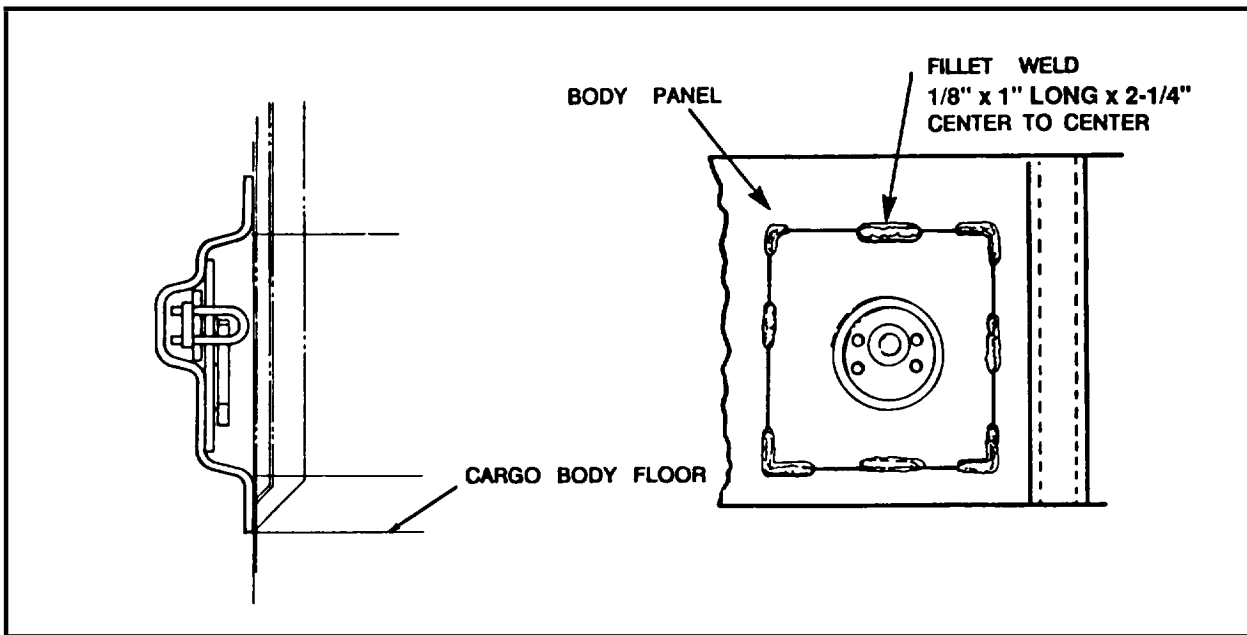
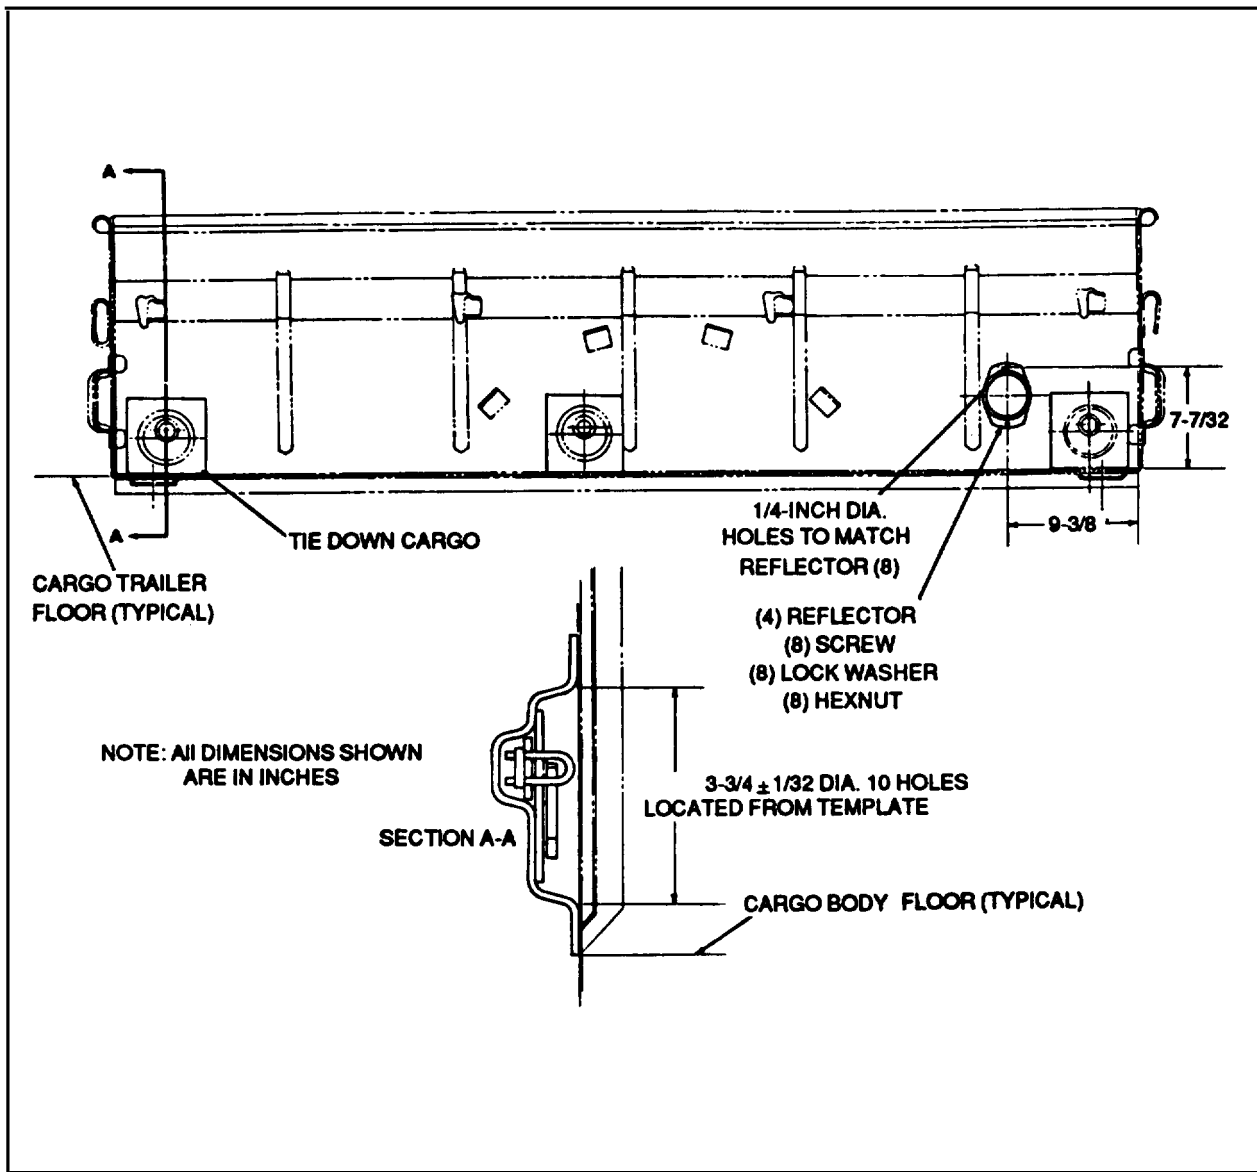

Figure 1. Anchor weldings to body panels
Figure 18. Anchor location and reflector mounting dimensions-side panel
To attach anchors requiring welding, arc weld using fillet welds approximately one (1) inch in length, covering at least eight (8) inches of the perimeter of the anchor retainer as shown in Figure 1. All welding is to be in accordance with TM 9-237.
- (1) Remove and retain seven paulin lashing hooks from each side panel of cargo body. Discard 28 rivets.
- (2) Remove and retain two reflectors, four screws, and four nuts from each side panel of body.
- (3) Fabricate one 1/2 x 3 x 5-1/2 inch spacer from suitable scrap wood or metal.
(6) Arc weld 28 anchors, using fillet welds. Welds are to be approximately 1/8 inch thick, 1 inch long and 2-1/4 inches center to center (figure 1).
(2) Cut holes matching the template. Trim rough edges and arc weld 16 anchors as shown in figure 1 for fillet welds.
(2) Cut holes using a hole saw, matching the template. Trim rough edges and arc weld 20 anchors as shown in figure 1, for fillet welds.
(3) Cut holes using a hole saw, matching the template. Trim rough edges and arc weld 24 anchors as shown in figure 1 for fillet welds. Install 10 hooks and two reflectors in paragraph 4a, steps (9) through (13).
(4) To install anchor near lashing hook, notch anchor plate as necessary. Exercise care not to damage disked section on outside (rear) of anchor.
(5) Arc weld 12 anchors, using fillet welds (figure 1).
(6) Locate reflectors remove in (1) as follows:
(1) Remove two red reflectors from each side panel of the cargo body and two red reflectors from the tailgate or rear panel. Retain reflectors and attaching screws, washers and nuts
(2) Using template provided in kit scribe location of the three anchors on left side, three on right side (figure 18 & 19) two on front panel and two on tailgate or rear panel.
(3) Using hole saw, cut out 10 anchor holes. Trim rough edges of holes.
(4) If necessary, relocate paulin lashing hooks. To provide clearance for installation of reflectors, notch the anchor plate. Exercise care not to damage the disked section of the anchor plate.
(5) Arc weld ten anchors, using fillet welds as shown in figure 1.
(6) Position one reflector on each side panel of the cargo body and locate reflector mounting plate (figure 18). Drill two 1/4-inch holes in each side panel. Install reflectors, using screws, washers and nuts removed in (1) above.